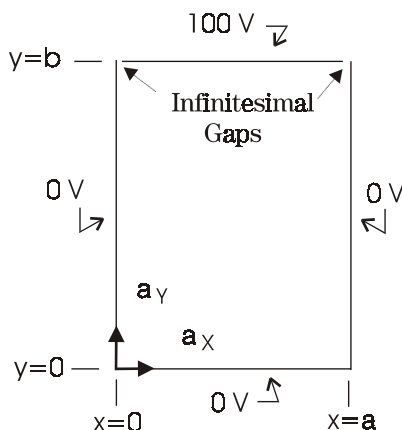

Figure 1. Geometry for 2-D electrostatic problem
Electrostatic potentials satisfy Laplace's equation, $\nabla^2 v = 0$, in charge-free regions. A typical two-dimensional problem is shown in Figure 1.
7. Since $k=n\pi/a$ from the boundary conditions on $f(x)$, $g(y)=\sinh(n\pi y/a)$. But it is not possible for this solution of $g(y)$ to satisfy the upper boundary condition for arbitrary $y=b$ (see top of Figure 1). Since the solutions for each n satisfy Laplace's equation, a linear combination of solutions must satisfy it also; such a solution is